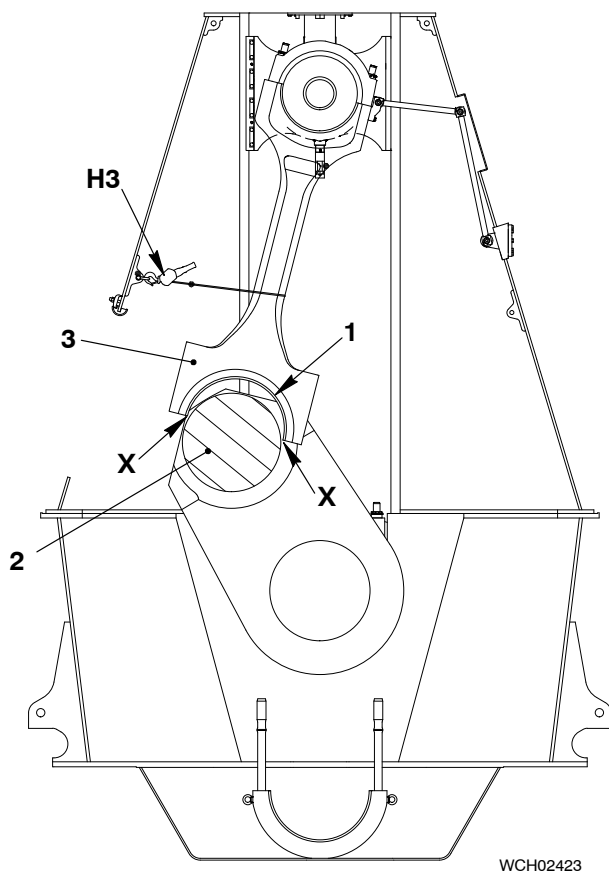

Fig. 10
- 13) Make sure that the surface of the crank pin (2, Fig. 10) is in a satisfactory condition.